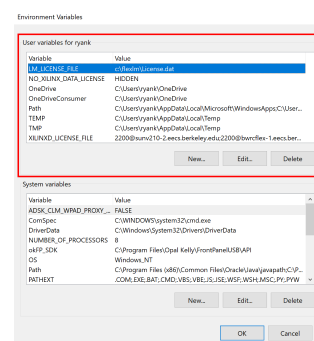

Figure 5: Environment variables dialogue.
- Double click the "Path" variable in the user variables dialog (Fig. 5).